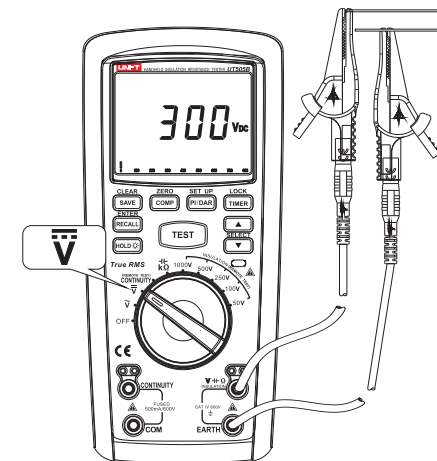

Figure 5
2. Measuring of DC Voltage (See Figure 5)
- ① Insert the red probe into "V" jack (red jack), and black one into "EARTH" jack (black jack).
- ② Rotate dial switch to the tap position of "V" and connect the probe to both ends of the power supply or load to be tested in parallel.
- ③ Read current measuring values of DC voltage from the display.
- ④ In measuring, if intending to save measured voltage, press the key of "SAVE/CLEAR" for saving.